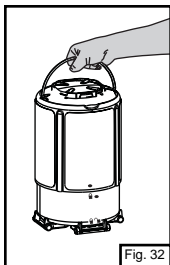

Fig. 32
- ⇒ The lantern may be carried by the handle. (Fig. 32)